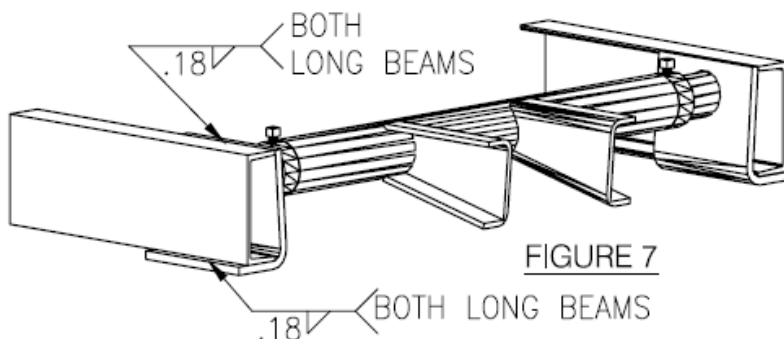

FIGURE 7
11. Slide each of the lifting shafts against the inside of the channel long beam. Weld the lifting shaft to secure the shaft to the long beam as shown in Figure 7. With the shaft secured, slide the lock collars against the hoist lifting tube and lock them by tightening the 3/8" set screw (refer to Figures 4 and 7). Torque each set screw to 24 ft./lb.